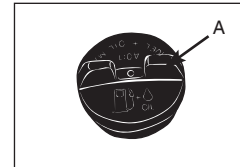
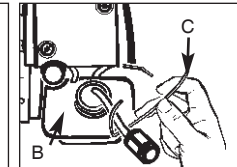
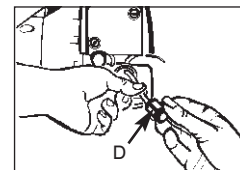

Fig. 17A
Fig. 17B
Fig. 17C
1. Completely remove fuel cap (A) from fuel tank (B) to be able to remove fuel filter (D) from tank. Use a piece of wire (C) with a hook formed at the end to pull filter out of tank. (Fig. 17A & Fig. 17B)
2. Pull filter (D) off with a twisting motion.
3. Replace fuel filter (D). (Fig. 17C)